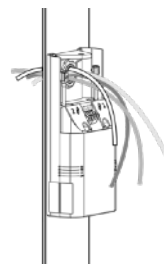

Fig 5
3. Route Wires. Route wires through knockout and into the mounting bracket. **Fig 5.**